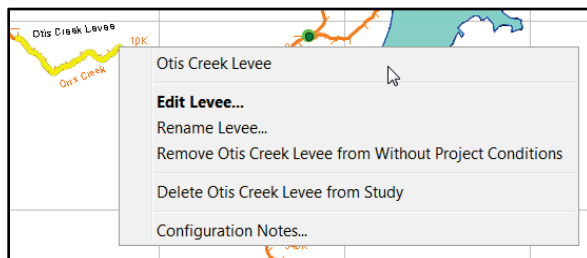

Figure G.15 Levee Shortcut Menu
After adding a levee to the schematic, the user can edit the levee; the user can rename an individual levee; remove a levee from the active schematic, delete individual levees from the study; and, create configuration notes for individual levees. All of these tasks are accomplished through the levee shortcut menu (Figure G.15). To access the levee shortcut menu, from a schematic, and with the **Levee Tool** (on the map toolbar, press the **Levee Tool** ) selected, right-click on a levee.
- Right-click on a levee, and click **Edit Levee** from the levee shortcut menu (Figure G.15).
1. Right-click on the levee that needs to be renamed, and click **Rename Levee** from the levee shortcut menu (Figure G.15).
HEC-WAT allows the user to remove levees from existing schematics. The levee will be removed from the schematic, but not from the study. To remove a levee from a schematic, right-click on the levee that is to be removed from the active schematic, and click **Remove LeveeName from SchematicName** from the levee shortcut menu (Figure G.15). The levee no longer appears on the schematic.
1. Right-click on the levee that is to be deleted, and click **Delete LeveeName from Study** from the levee shortcut menu (Figure G.15).
1. Right-click on the levee that the user wants to add schematic notes to, and click **Configuration Notes** from the levee shortcut menu (Figure G.15).